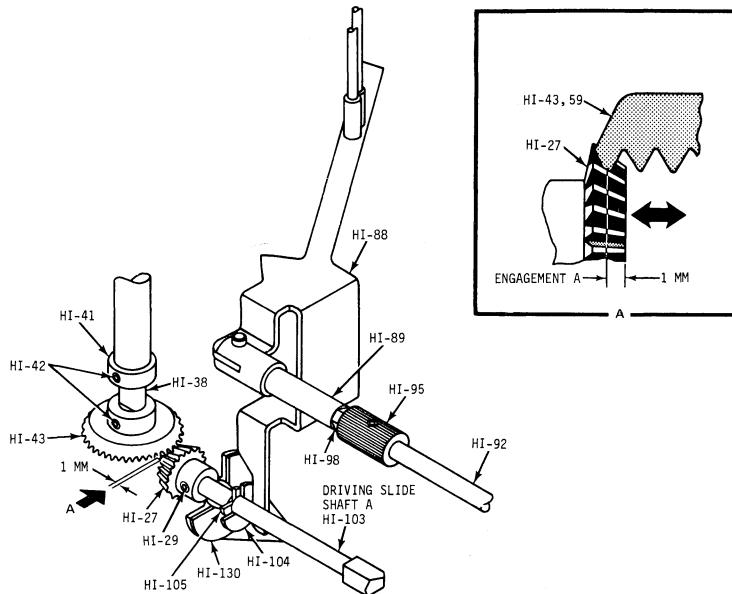
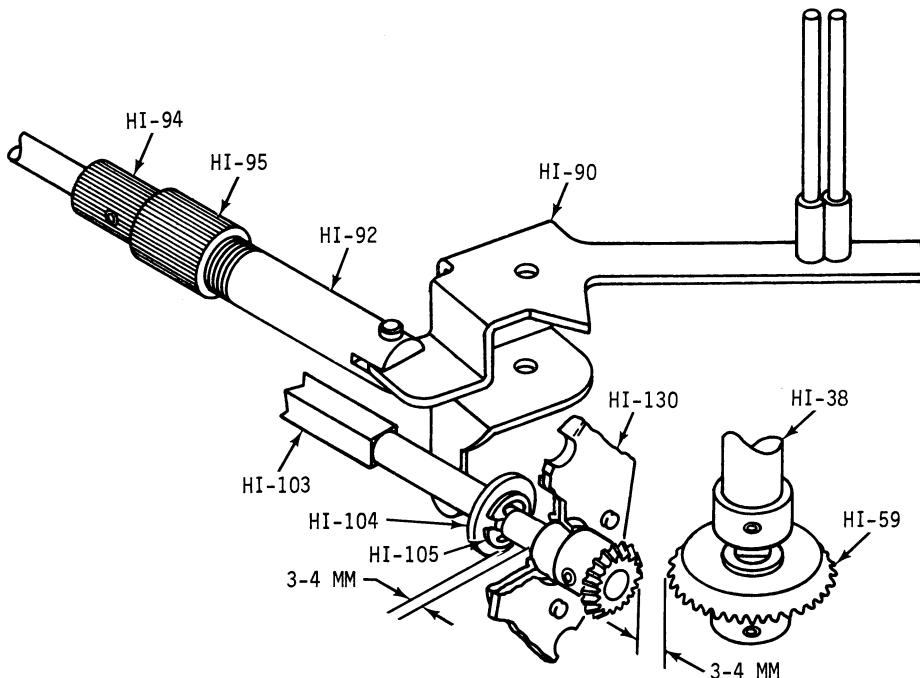
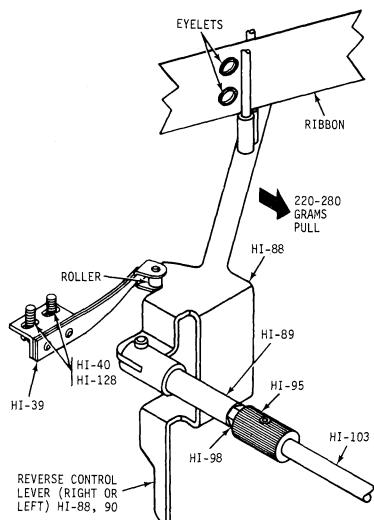

Figure 5-5. RIBBON FEED MECHANISM (REAR OF PRINTER, LEFT SIDE)
Figure 5-7. DRIVING SLIDE SHAFT A - ADJUSTMENT
Figure 5-9. RIBBON REVERSE TIMING
Above torque transmission route for the ribbon feed mechanism (left and right) is determined by position of driving slide shaft A (HI-103) (Fig. 5-7), controlled with control spring (HI-93) (Figure 5-9), reverse control lever (right) (HI-88) (Figure 5-9), and reverse control lever (left) (HI-90) (Figure 5-7).
A. Bevel Gears (left and right) (HI-27, 43) and (HI-27, 59) (Refer to Figure 5-5)
2. Adjust bevel gear (HI-27) (left side) with respect to bevel gear (HI-43) by loosening and tightening allen-head screws (HI-29) to obtain engagement A of approximately one millimeter (0.039-in.). See Fig. 5-5, and View A
When engagement A (Figure 5-5) has been properly adjusted between gears (HI-27) with respect to bevel gears (HI-43, 59), adjust bevel gears (HI-43, 59) alternately to obtain correct backlash operation of gears in the following manner:
1. When engagement A and B of bevel gears has been made (Figure 5-5, 5-6), one snap ring (HI-105) always contacts support bushing (HI-130); the distance between other snap ring (HI-105) and the support bushing (HI-130) on shaft (HI-103) is 3 to 4 millimeters (0.12-0.16-in.). (See Figure 5-7). Note that distance between bevel gear (HI-59) and bevel gear (HI-27) is also 3-4 mm.
2. When bushings and holders (HI-133, 130) on left and right side of printer are installed, the driving slide shaft A (HI-103) should move freely and travel an overall distance of 3.0 to 4.0 millimeters (0.12 -0.16-in.) when engaged alternately in either direction with bevel gears (HI-27, 43) or (HI-27, 59). (See Fig. 5-7)
E. Control Spring (HI-39) - Ribbon Reverse Timing (See Fig. 5-9)
1. When reverse control lever (HI-88) turns left by moving ribbon reversing shaft (HI-92) to left, and if Engagement A (Fig. 5-5) between bevel gear (HI-27) and bevel gear left (HI-43) is decreased to approximately 1.0 mm (0.039-in.), adjust position of control spring (HI-39) by loosening screws (HI-40) and flat washers (HI-123) to just pass roller mounted on control spring (HI-39), (located underneath left ribbon spool shaft (HI-38) over top of ramp of reverse control lever (left) (HI-88). Note, that both ribbon spools will rotate freely when driving slide shaft A (HI-103) is in neutral position (top of ramp).
2. When ribbon of spool (empty condition) containing eyelets (or small plate) is blocked by ribbon guides (part of HI-88, 90) a pull of 220-280 grams (7.7 oz - 9.8 oz) is exerted on the reverse control levers (either left or right), which reverses the ribbon movement. (See Figure 5-9)
*Both bevel gear (HI-27) and bevel gear (right and left) (HI-42, 59) should be timed so that they engage together after roller, mounted on control spring, passes over top of ramp of reverse control lever (HI-88). (Fig. 5-9)*